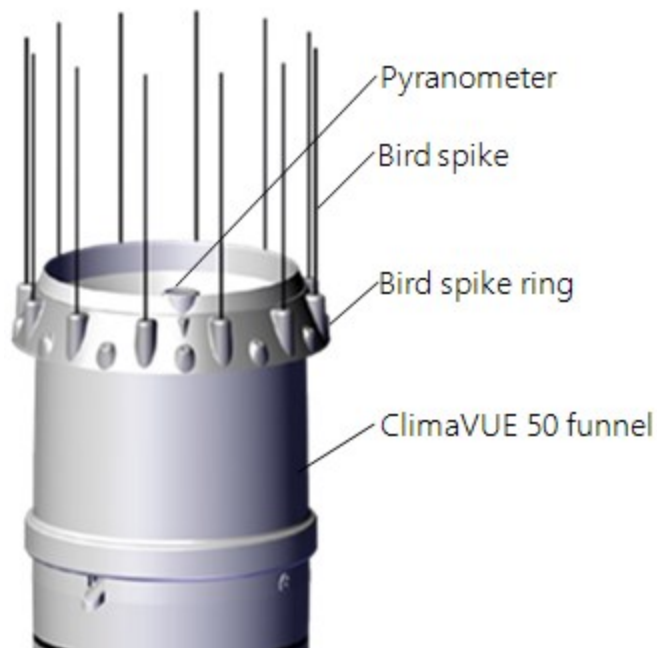

Figure 7-7. Bird-spike kit mounted properly
6. Position the ring on top of the ClimaVUE 50 with the pyranometer aligned with the triangle between two spikes (Figure 7-7 (p. 21)); this will limit spike shadows on the sensor.
7. Press finished bird deterrent onto the ClimaVUE 50 funnel to at least the depth shown in Figure 7-7 (p. 21).